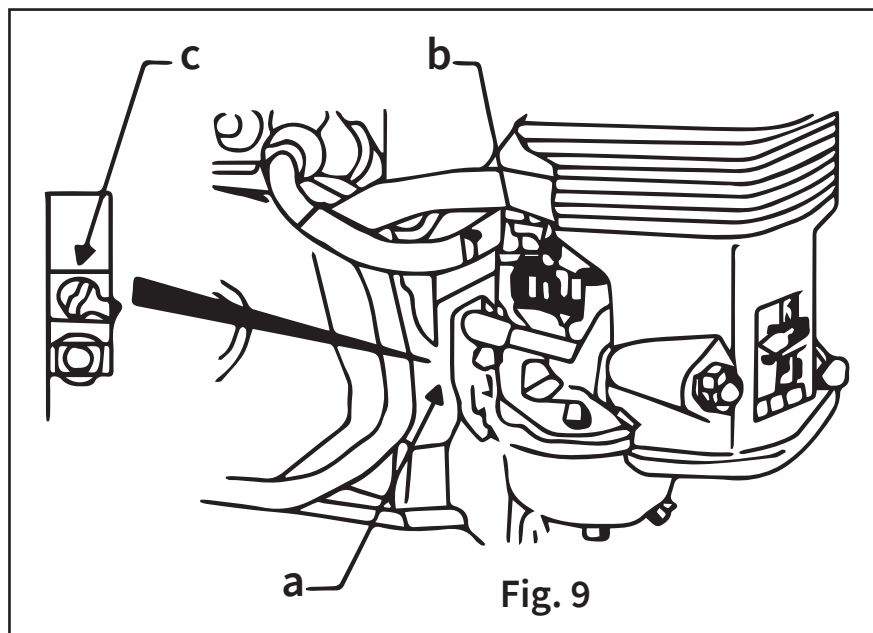

Fig. 9
4.8 Carburetor Adjustment (Fig. 9)